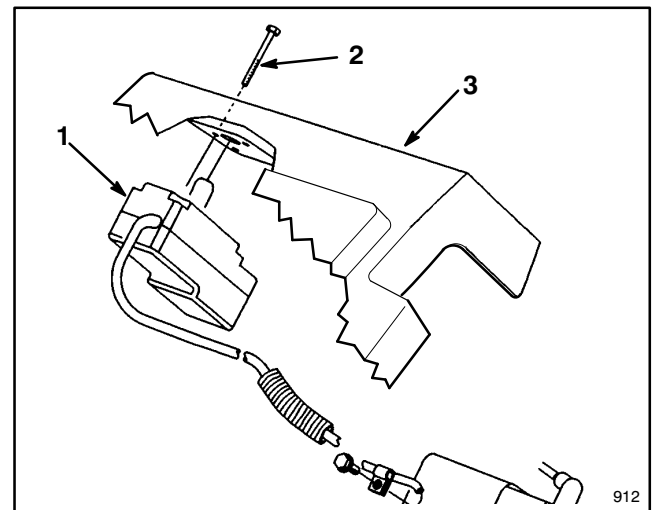

Figure 3
3. Remove (3) three screws securing switch assembly to upper shroud (Fig. 3). Save screws for later reinstallation. Discard upper shroud.